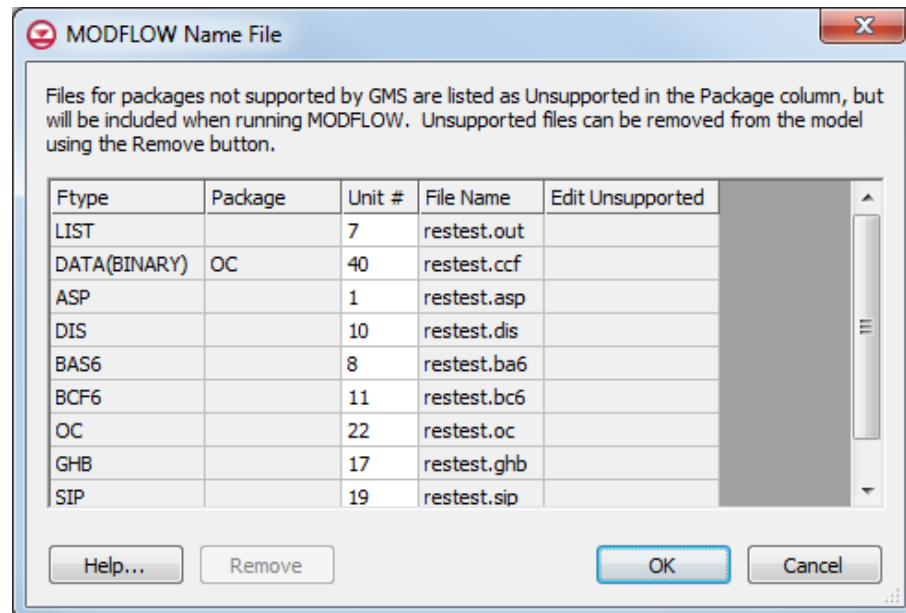

Figure 3 The MODFLOW Name File dialog
- Select *MODFLOW* / **Name File...** to bring up the *MODFLOW Name File* dialog (Figure 3).